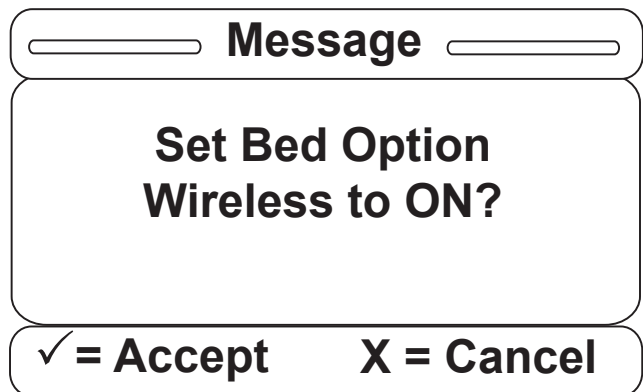

Figure S-20
20. Once you have selected one of the items, a confirmation screen such as that in Figure S-20 will be displayed. The confirmation screen text will vary based on the item you have selected. The confirmation screen in Figure S-20 indicates that the user chose the Awareness option to be ON. Hit "Enter" on the footboard panel to confirm your Wireless option; hit "Exit" to cancel the operation.